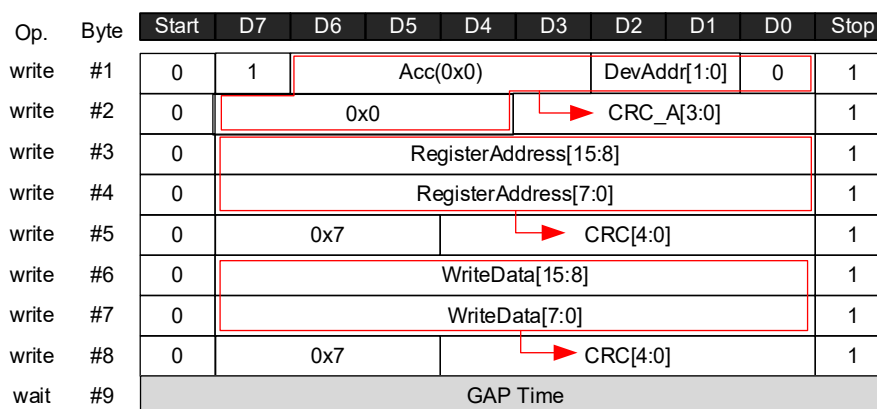

Figure 45. UART Register Write Mode
- 16-bit register write (Figure 45)
The Write Frame structure can be seen in Figure 45 where: